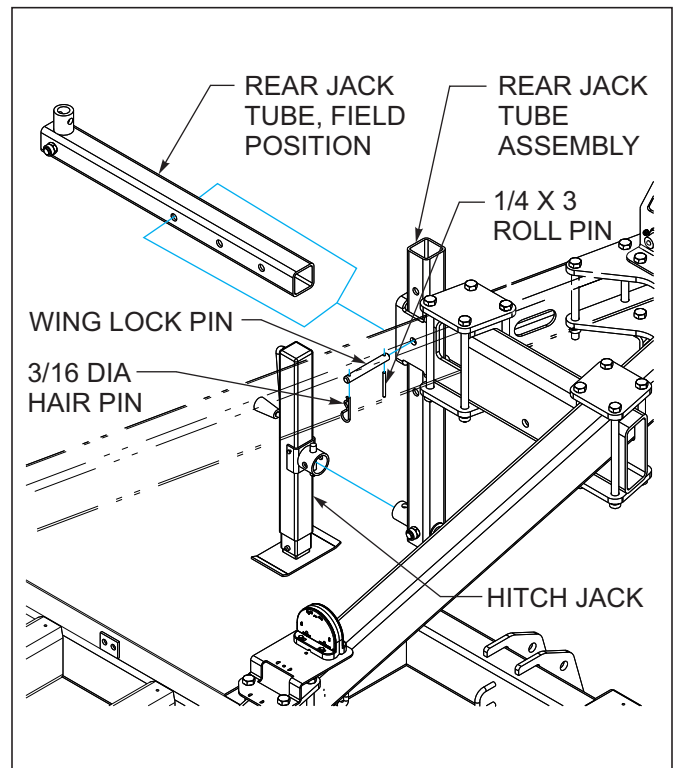

Figure 4-16: Rear Hitch Jack Operation
1. Remove the 3/16 dia hair pin from the wing lock pin and slide the rear jack tube assembly out of the hitch jack mount, field position (See Figure 4-16.)